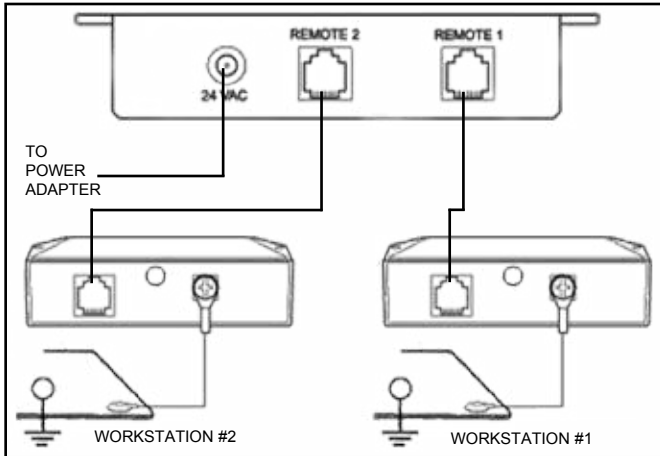

Figure 4. Wiring connection instructions for the 19232 / 19233 monitor control unit.
Figure 4 shows the monitor control unit as it is viewed from the rear, with the work surface wiring in place.
1. Use the rear phone jack connections and connect the Satellite Remote Units to the base unit with the phone cables. See Figure 4 for wiring connection instructions.
4. Confirm that worksurface surface resistance is  $1 \times 10^7$  ohms or less. Connect the ring terminal end of the worksurface cord included with the unit to the screw on the back of the satellite. Snap the other end to the worksurface grounding point as shown in Figures 4 and 5.